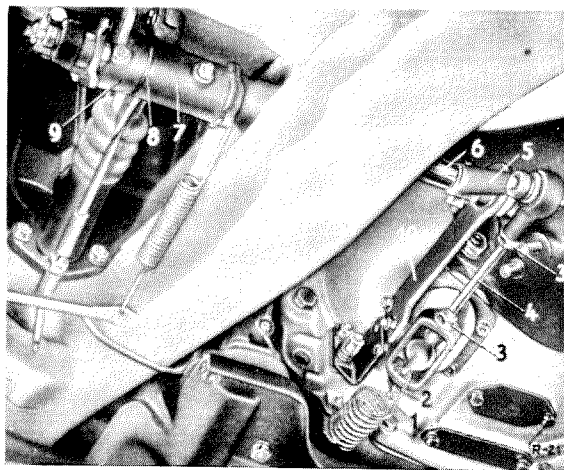

Fig. 01 — 2/5
18. Detach the return spring at the clutch throw-out fork and at the transmission. After loosening the hexagon nut (2) and the set screw (1) press down the turnbuckle and the pull rod. Release the swivel support (10) by removing the two hexagon screws from the spring plate (see Fig. 01 — 2/5).